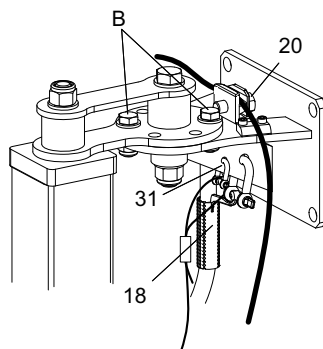

Fig. 23 Top fixation bracket with lifting and safety wires and cable sock
20. Mount the cable sock (pos. 18) to the top fixation bracket using the shackle, and pull the motor cable through it, to the desired position. See fig. 23. The supply cable should be slightly tightened.